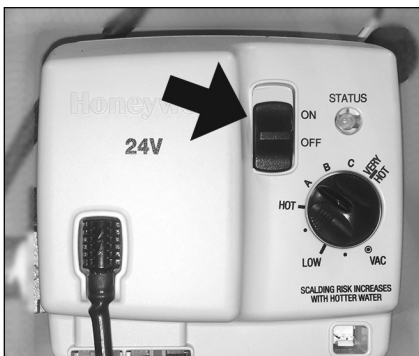

Figure 44 - Turn the gas control valve off.
- 2 Move the ON/OFF switch on the gas control valve/thermostat to the “OFF” position to turn off the water heater (Figure 44).